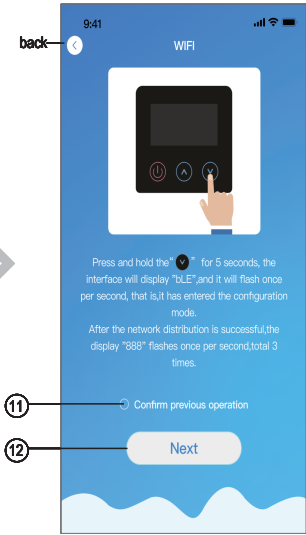

Fig.8 WIFI Module On interface
2. Follow the instructions on the page (Fig.8), press button on module and hold for 1s till two lights o then AP connection is activated, click ⑫ to next;
3. Clic ⑬ to enter the WIFI password for the current connection, click ⑭ to confirm.